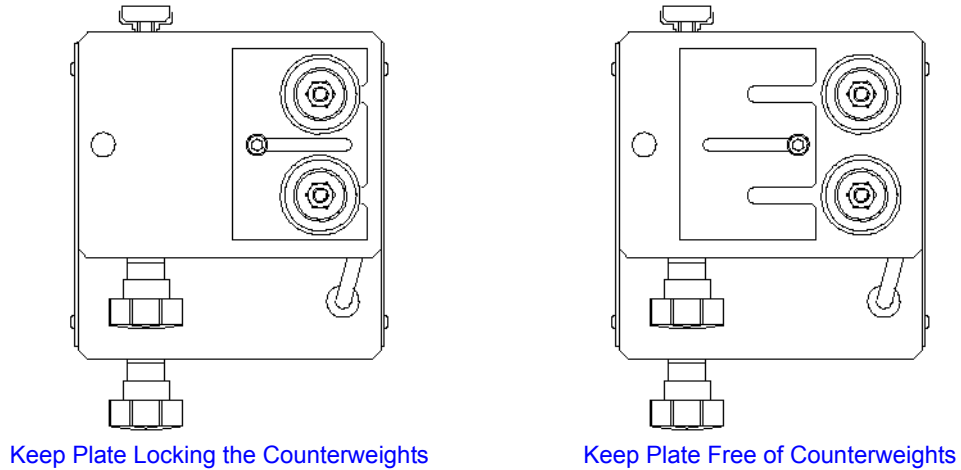

Figure 2-1. Use of Keep Plate
2. Slacken the thumbscrew and slide the keep plate to clamp the counterweights. Retighten the thumbscrew (see Figure 2-1).
2. Slacken the thumbscrew and slide the keep plate forwards on the extensometer to release the counterweights (see Figure 2-1). Re-tighten the thumbscrew.
3. Slacken the thumbscrew and slide the keep plate forwards on the extensometer to release the counterweights (see Figure 2-1). Re-tighten the thumbscrew.
4. Slacken the thumbscrew and slide the keep plate forwards on the extensometer to release the counterweights (see Figure 2-1). Re-tighten the thumbscrew.